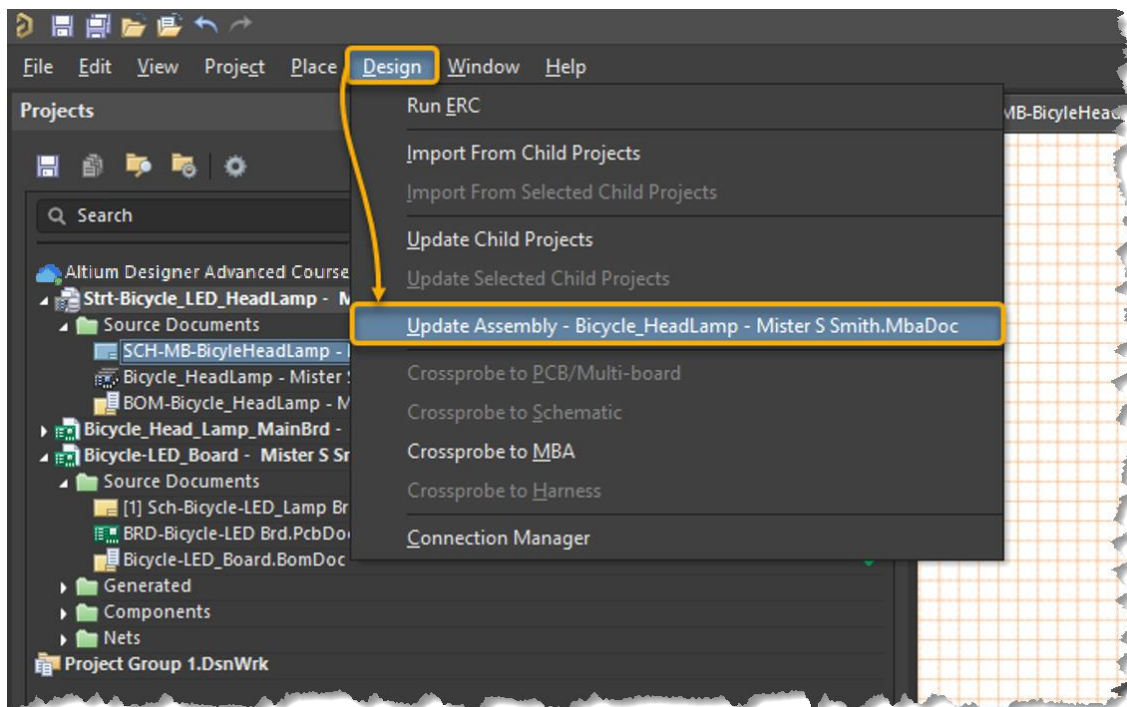

Figure 22. Design » Update Assembly menu selection
Now, you will update the Multi-Board Assembly file, as shown in Figure 22. Follow the steps below to accomplish this task.
50. Ensure your MB Schematic is open. From **Design** menu, select **Update Assembly Bicycle\_HeadLamp.MbaDoc - [Your name]** with a left mouse click, Figure 22 above.